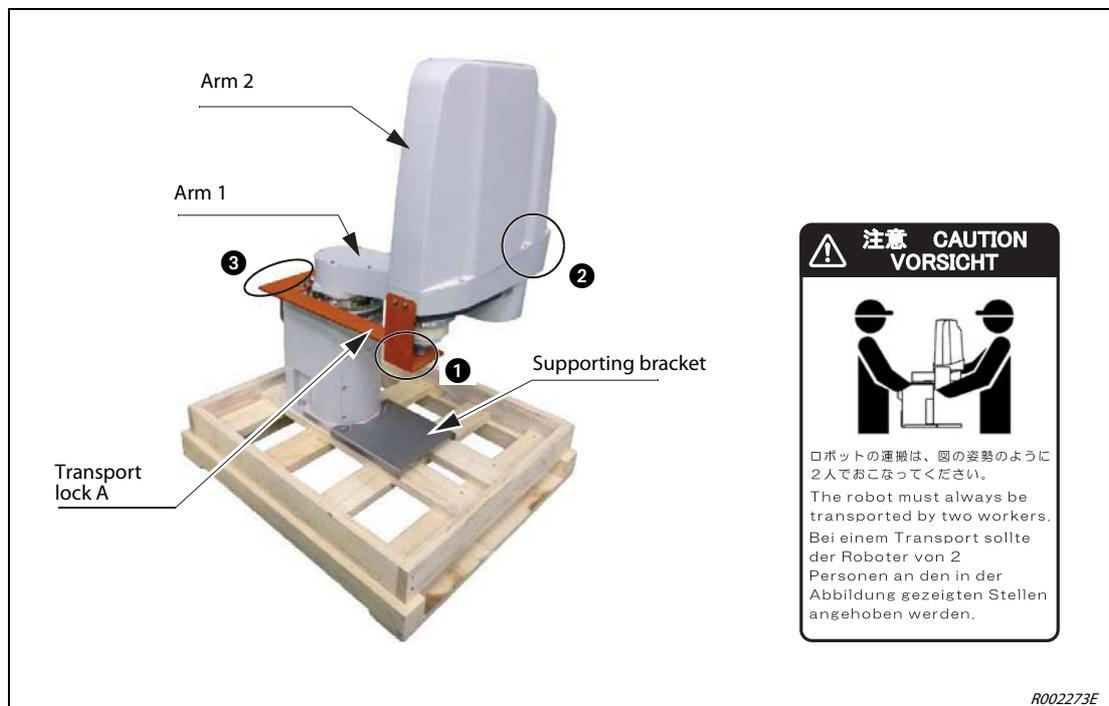

Fig. 3-6: Holding points on robot arm
- **Always carry the robot arm at holding points ①, ② and ③. Never carry the robot arm at the covers because this may result in damages.**
- ① Two persons are always required for transport. When doing so, one person should hold the robot arm at point ① at the fixing plate A of arm 2 and point ② on arm 2 and another person should hold the fixing plate A of base at point ③ (see Fig. 3-6). Never carry the robot at the sides or at its covers because these may become loose and can destroy the robot arm.